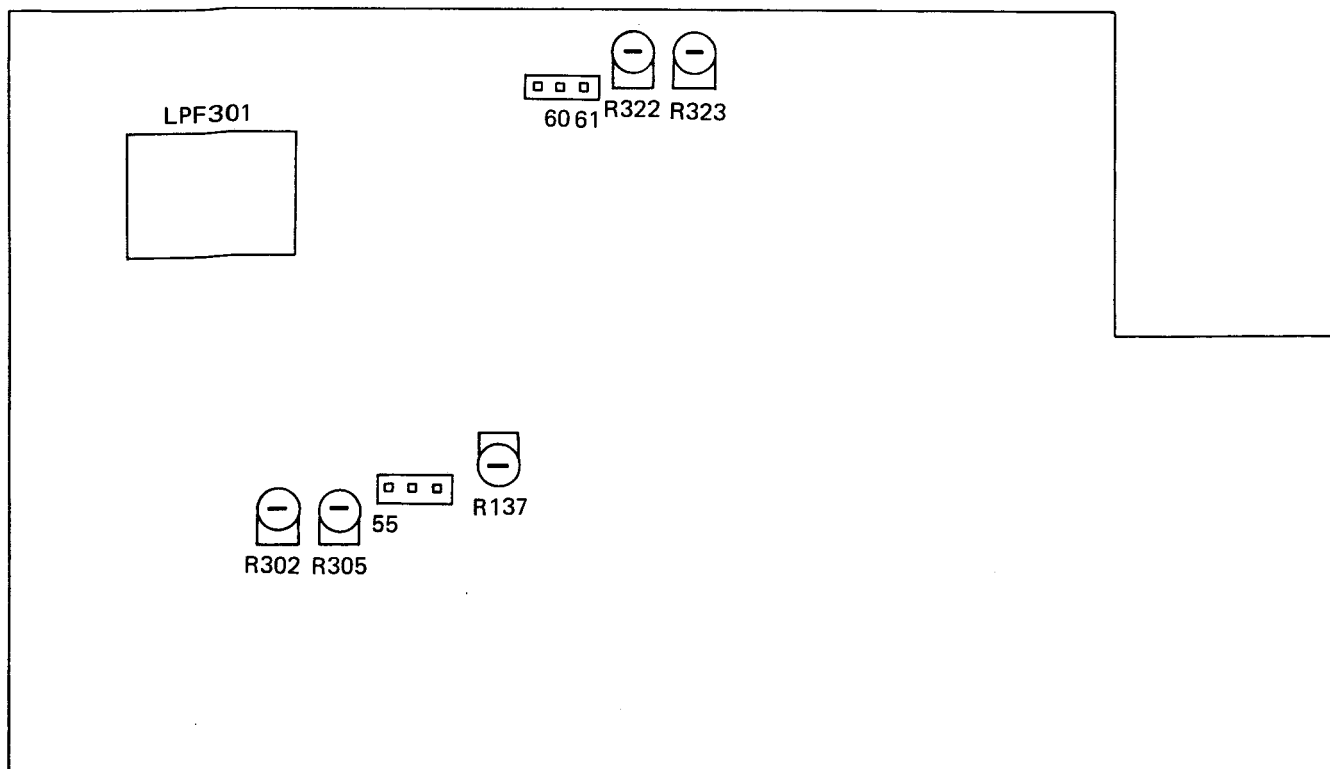

Figure 3. MPX/REGULATOR CIRCUIT BOARD (TOP VIEW)
8. Set IF BAND switch to "NARROW" position again and adjust R137 (Figure 3) until M2 indicates a " 4.5 ± 0.3 " meter reading.
4. Tune the unit for 108 MHz unmodulated signal and adjust R302 (Figure 3) for 75.93 to 76.07 kHz for correct VCO.
5. Adjust generator to ± 7.5 kHz deviation for 19 kHz pilot signal. Using VTVM, adjust R305 (Figure 3) so that test points "60" and "61" are at the same potential. (Less than 15 millivolts)
6. Adjust generator to ± 67.5 kHz deviation at 1000 Hz for L-channel and to ± 7.5 kHz deviation for 19 kHz pilot signal. Adjust R322 (Figure 3) for minimum output of R-channel.
9. Set IF BAND switch to "NARROW" position and adjust R323 (Figure 3) in the same procedure as steps 6, 7 and 8.